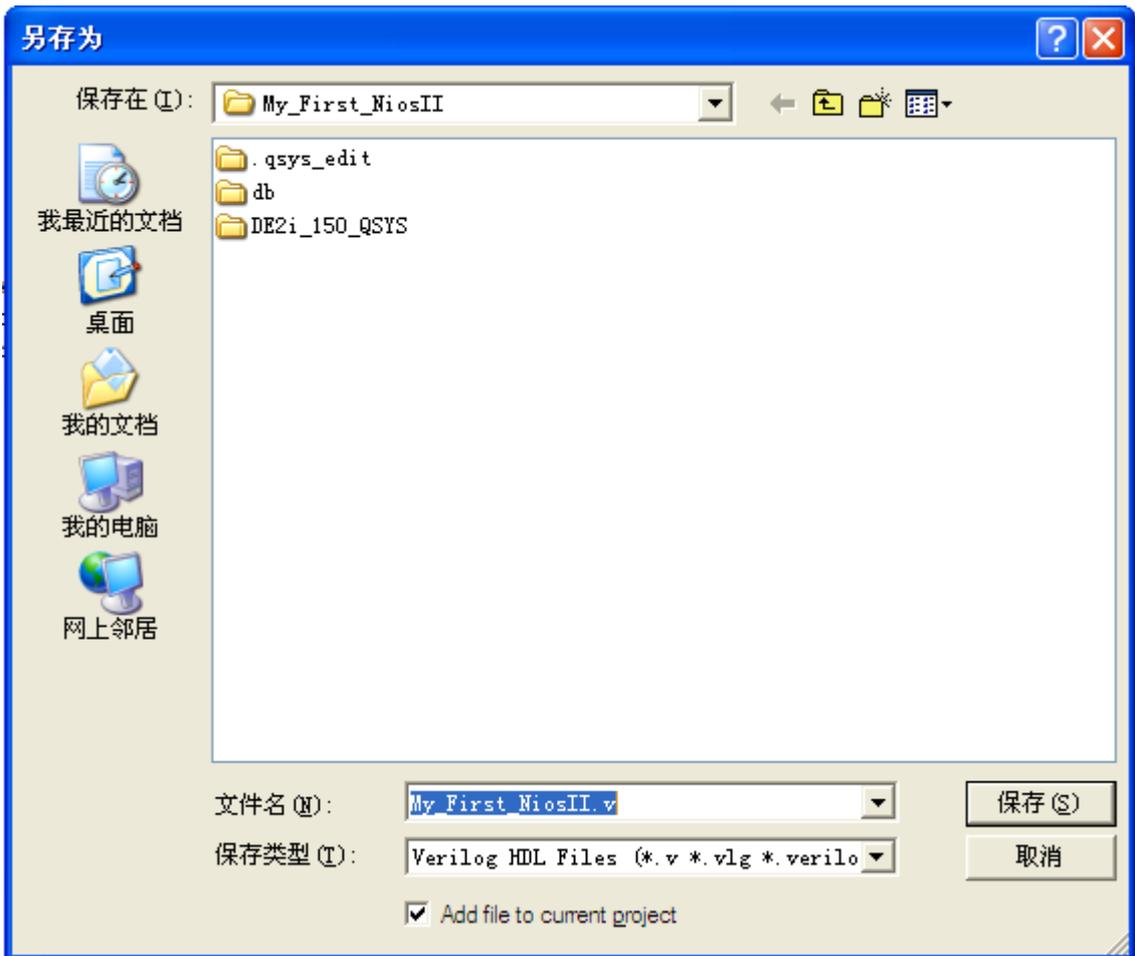

Figure 1-57 Save Verilog file
35. Choose **Save Icon** in the tool bar. There will appear a window as shown in Figure 1-57. Click **Save**.